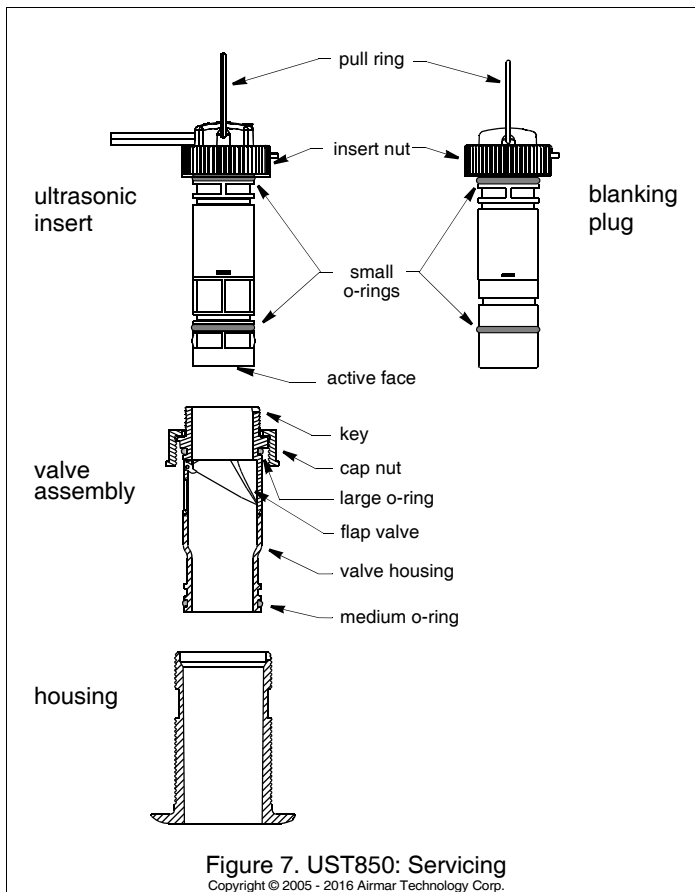

Figure 7. UST850: Servicing
1. Place the *insert* nut on the top of the blanking plug (Figure 7). Attach the pull ring to the plug, capturing the *insert* nut.
3. Unscrew the *insert* nut. **Do not remove the cap nut.** Grasp the pull ring and remove the ultrasonic insert with a slow pulling motion (Figure 7).
4. To free the *cap nut*, remove the ultrasonic insert/blanking plug from the valve assembly by unscrewing the *insert* nut (Figure 7). Grasp the ultrasonic insert/blanking plug by the pull ring and pull upward slowly.
6. Clean, repair, or replace the valve assembly, so the flap valve moves freely and seats against the valve housing (Figure 7).